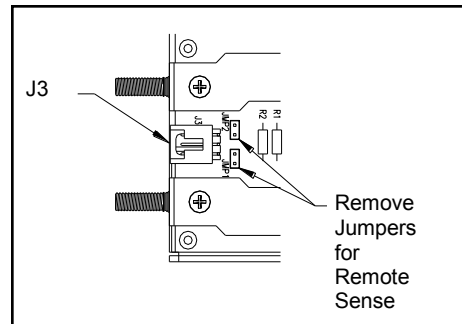

Figure 4. Single (Maxi Module) Remote Sense Jumpers
- ◆ If Remote Sense is desired, remove jumpers JMP1 and JMP2, located behind the sense connector. (See Fig. 4)